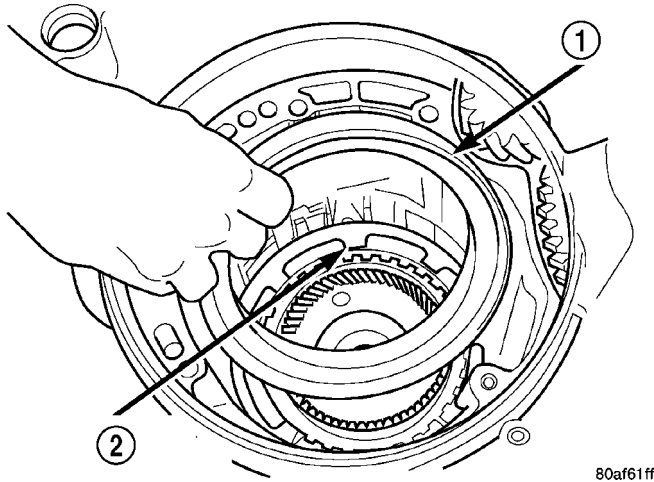

Fig. 42 2/4 Clutch Retainer
(27) Remove 2/4 clutch retainer (Fig. 42).